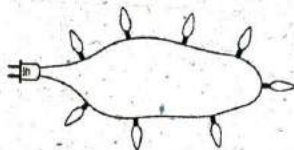

FIG. 5.100
16. Eight holiday lights are connected in series as shown in Fig. 5.100.